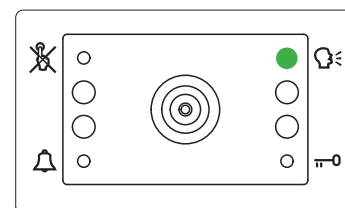

Fig. 6 Door opening
- If the resident opens the door, the  green LED illuminates (**Fig. 6**) for the programmed door opening time.